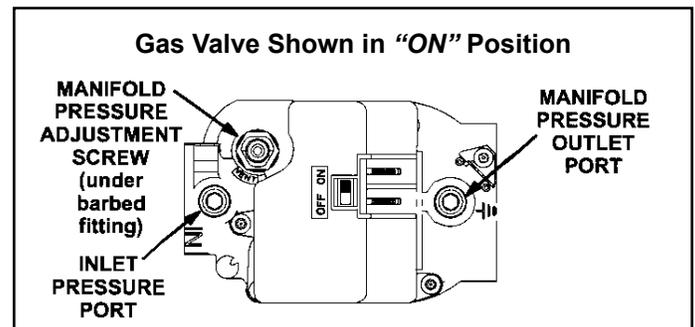

Figure 33.
See Figure 33
- Move switch on gas valve to OFF. Do not force. See Figure 33.
- Move switch on gas valve to ON. Do not force. See Figure 33.